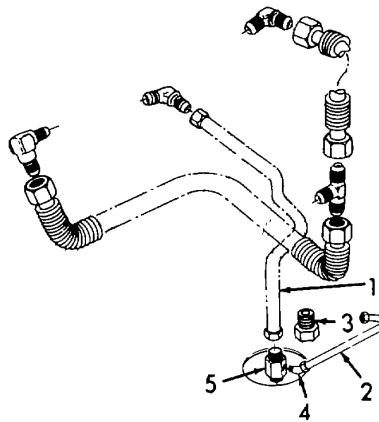

Figure 3-31. Check Valve, Removal.
a. *Removal.* (Refer to Figure 3-31).